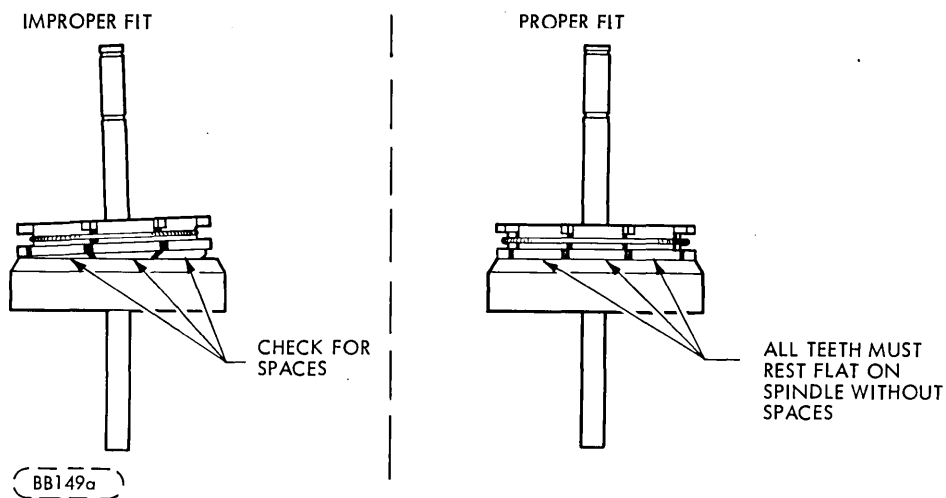

Figure 6-11. Spindle and Cone
- b. Position chassis assembly by pushing down on the spindle cone shaft so cone seats in the spindle (Figure 6-11).
- c. Slowly close door without spindle turning. Spindle top surface and cone spindle contact surface must meet at the same time on the full circumference of the spindle (see Figure 6-11).